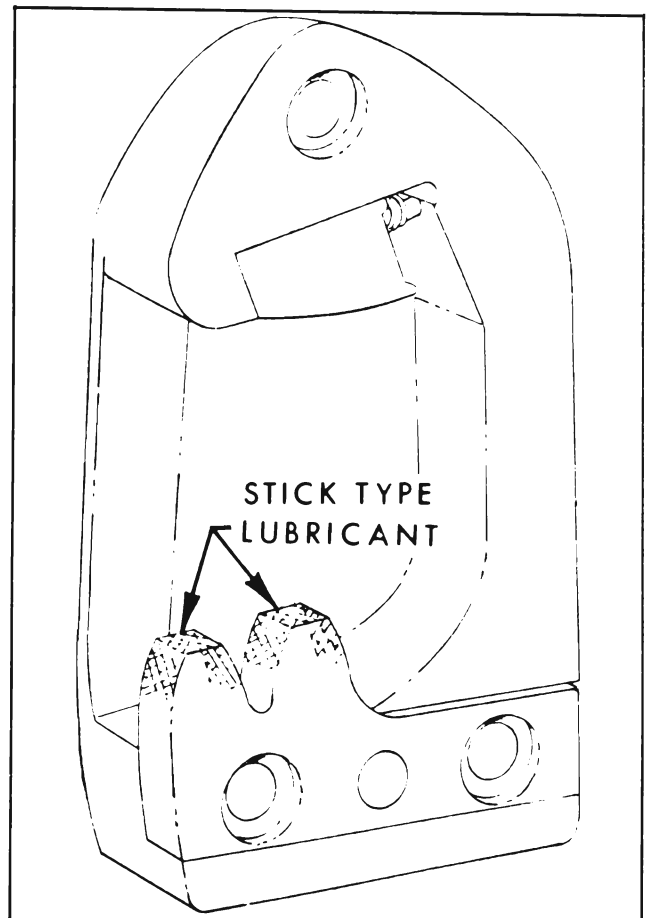

Figure 1-17—Lubrication of Door Lock Striker
10. Door Lock Striker. Wipe off dirt and apply a thin coat of stick-type lubricant to top surface of lock bolt striker teeth. After lubrication, close door several times and remove excess lubricant along the side edge of teeth. See Figure 1-17.